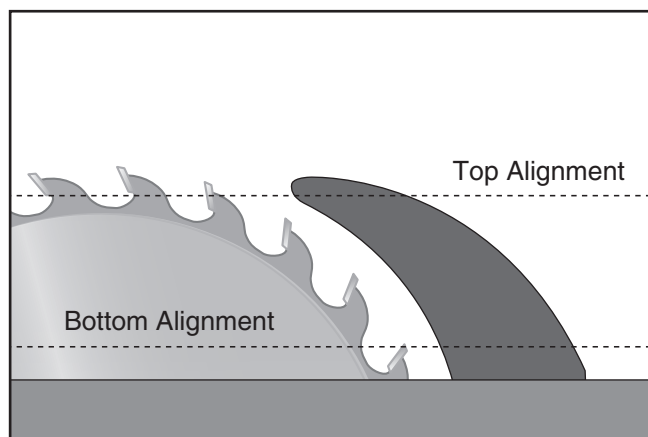

Figure 117. Checking top and bottom riving knife parallelism with blade.
4. Place straightedge against top and bottom of blade and spreader/riving knife, as shown in **Figure 117**.